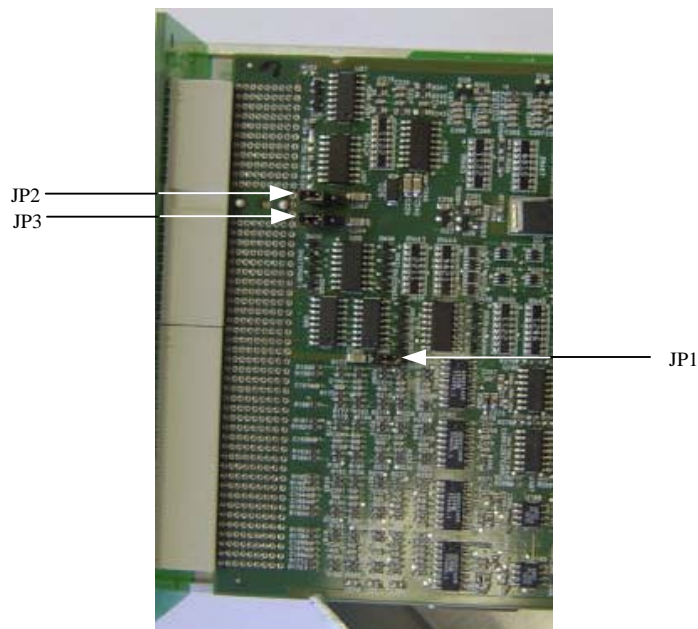
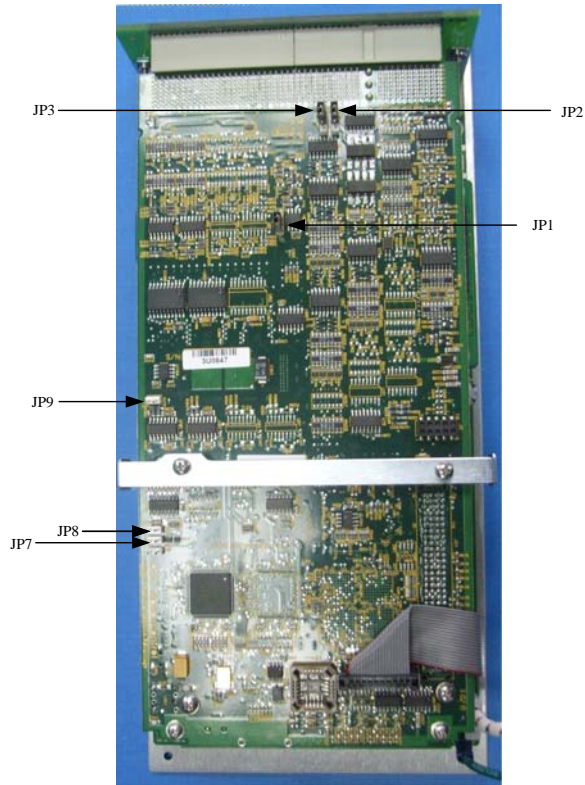

Figure 57 Jumper Locations
Figure 59 SPiiPlus SAR-LT Jumper Locations
Figure 57 shows the location of the jumpers on the SPiiPlus SAR card:
Figure 59 shows the location of the jumpers on the SPiiPlus SAR-LT card:
4. Locate the jumpers according to Figure 57 (Figure 59 for the SPiiPlus SAR-LT) and connect them as needed.